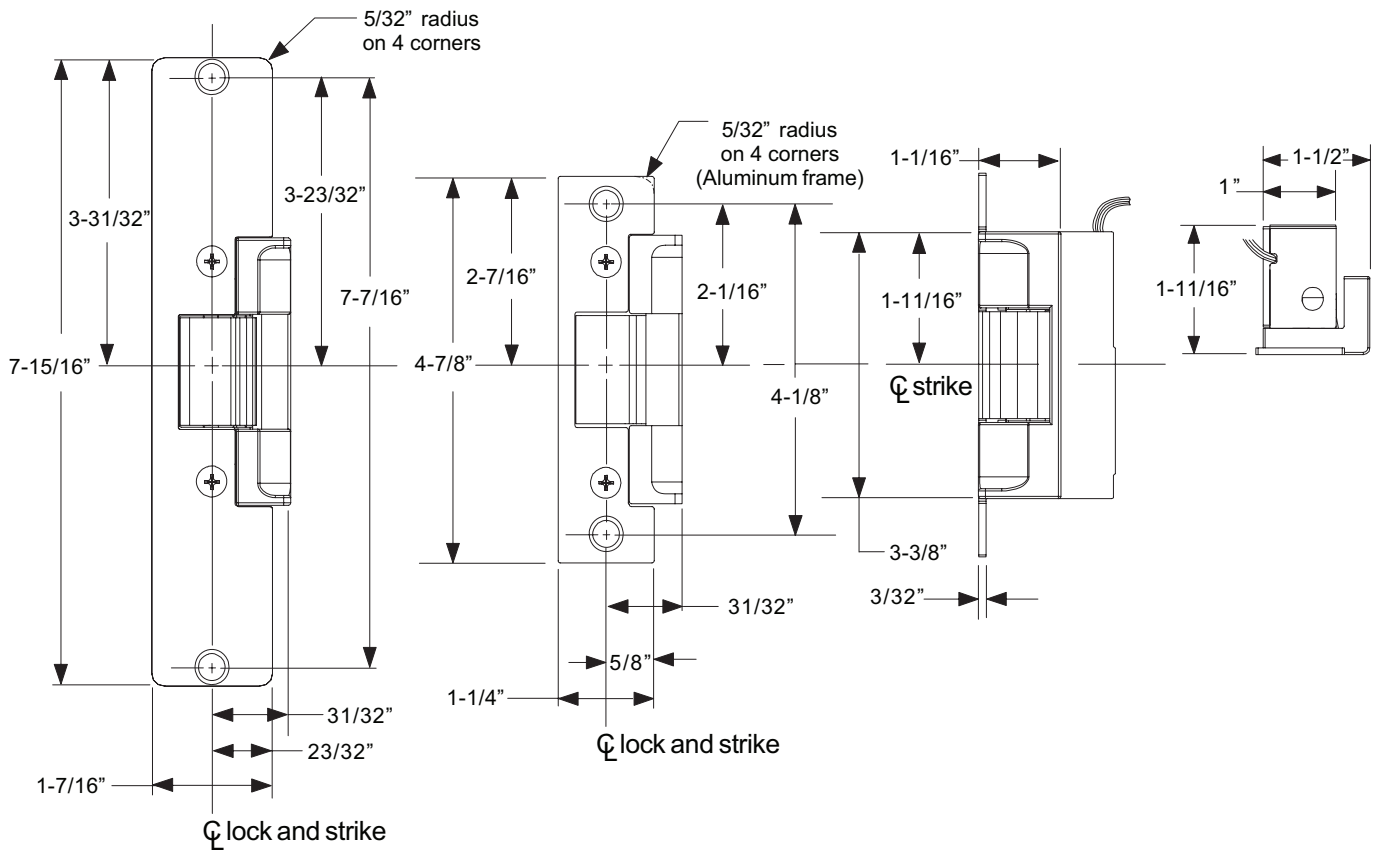

**Figure 10**
**11.** Install strike with two #12-24 mounting screws. Make sure clearance between latch bolt and strike lip is 1/32" (Figure 9). If not, remove strike, adjust (Figure 10), and reinstall.